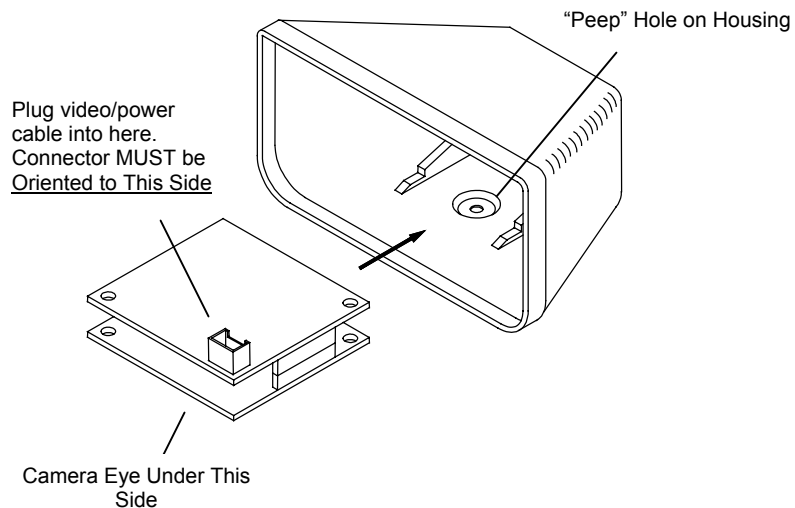

FIG. 3
7. Attach cord clips on inside of the header cover to support the weight of the cable, then snap the black coaxial end into the loops. Plug the cable into the 3-pin connector on the camera circuit board, then insert the camera into the housing as shown in **FIG. 3**. Be sure to align the camera eye with the "peep" hole on the housing.